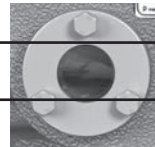

Fig. 6
**The correct oil level is shown in figure 6.